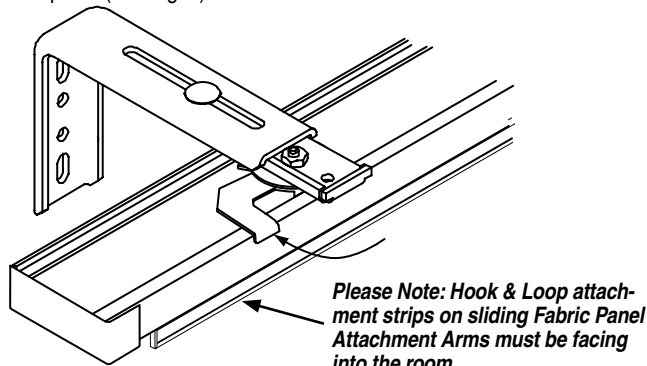

Figure 2
- ④ Attach track to the mounting brackets. Place the mounting locking mechanisms into the extrusions along the top of the track, and rotate until they lock in place (see Fig. 2).